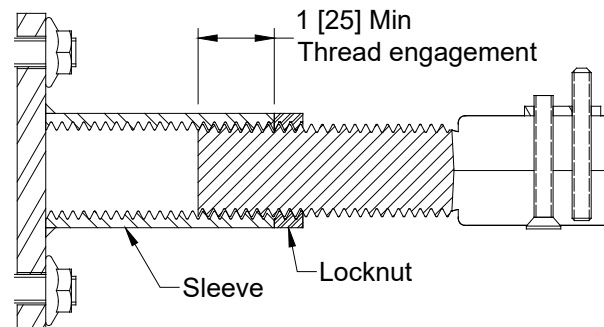

Fig. 8
8. Secure arms by tightening the locknut against the sleeve until snug. Ensure a minimum thread engagement of 1 inch. See Fig. 8